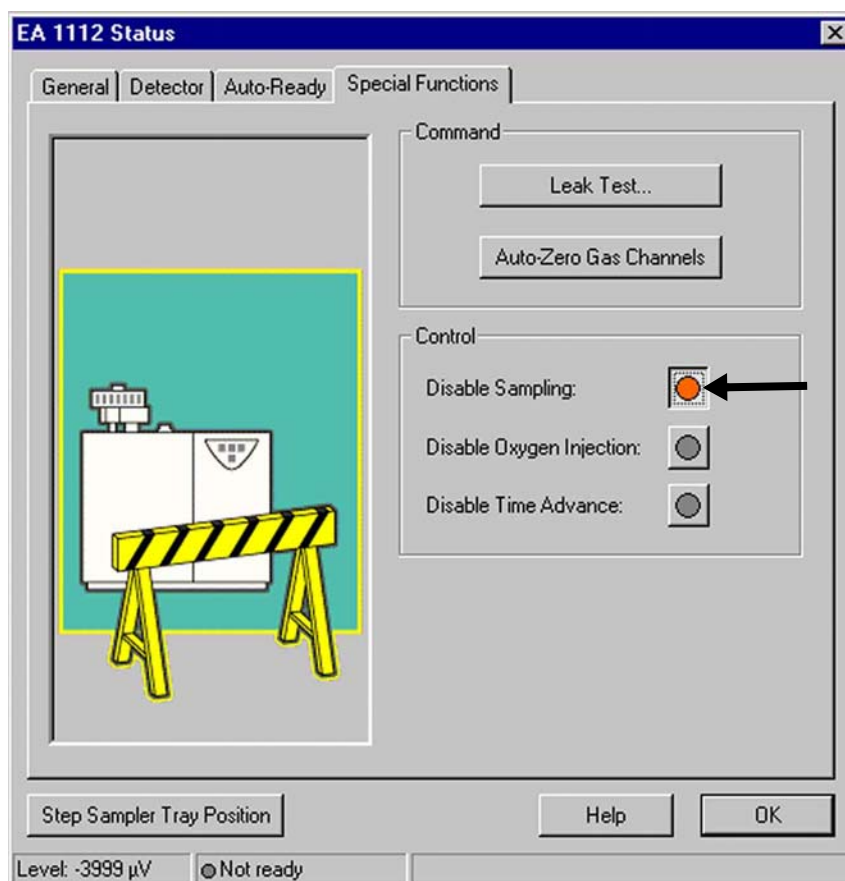

Figure 4-17. Disabling Sampling in Eager software
2. Before starting the acquisition, switch to the Eager software and disable sampling by clicking on the **Disable Sampling** button. The button will turn into orange. See Figure 4-17.